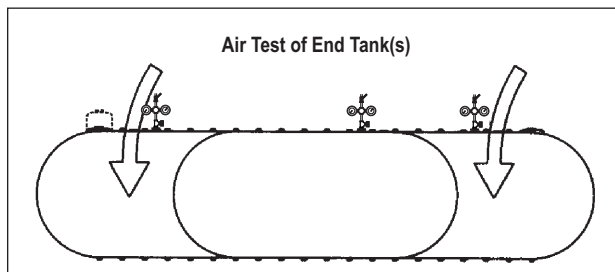

FIGURE 3-12
3.7.3.1. Connect the pressure source to the test manifold on the end tank(s). (See FIGURE 3-3 and FIGURE 3-12.)
3.8.4.1. Connect the pressure source to the test manifolds on the end tank(s). (See FIGURE 3-3 and FIGURE 3-12.)